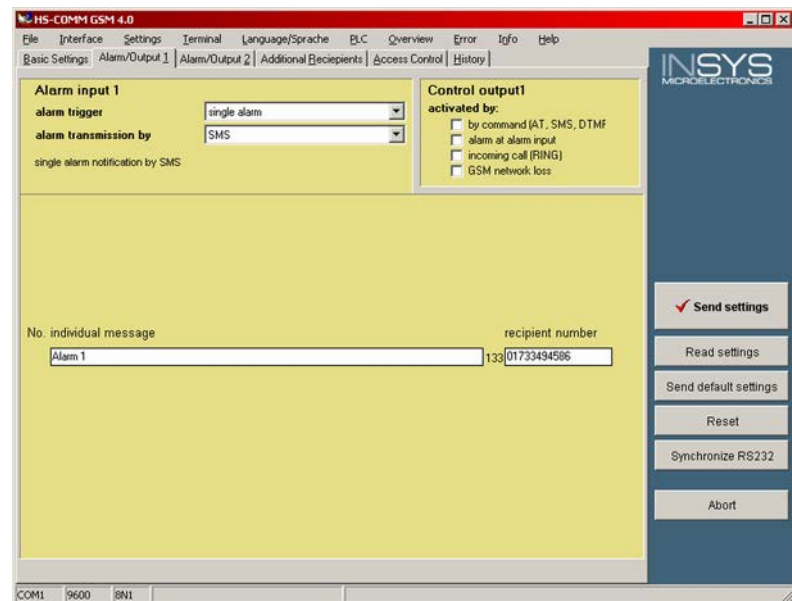

Fig. 225: GSM modem - alarm/output 1
2. ➤ Set up the modem as shown in (Fig. 225) on the “Alarm/Output 1” tab.